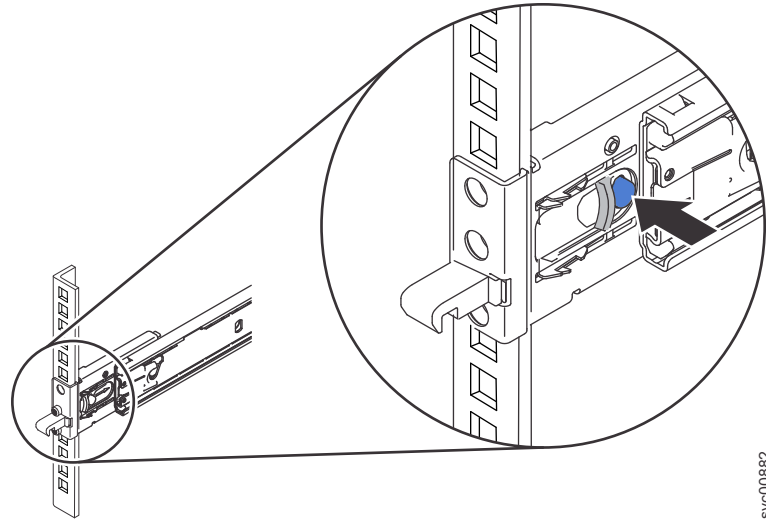

Figure 25. Installing front end of slide rail
6. Install the front end of the slide rails, as shown in Figure 25 on page 25.